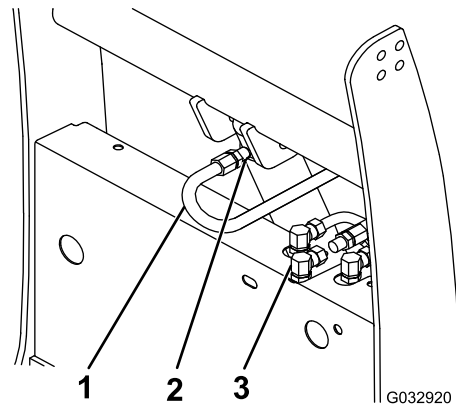

Figure 11
6. Remove the plug on the upper fitting on the lift cylinder (Figure 11).
8. Install that end of the hose to the upper fitting on the lift cylinder (Figure 11). Turn the fitting until it is finger tight, then turn it 2 to 3 more times.
9. Creating an “S” shape with the hose, connect the free end of the hydraulic hose to the rear fitting on the hydraulic shelf (Figure 11). Turn the fitting until it is finger tight, then turn it 2 to 3 more times.